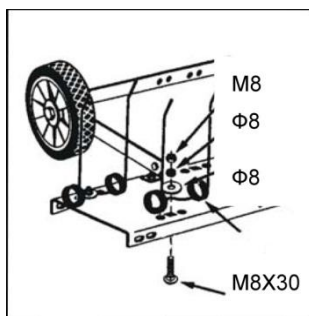

Figure 7
9. Attach the ten tine springs in the square holes in the mounting plate. Use a coach bolt (M8x30) washer ($\varnothing 8$), lock washer ($\varnothing 8$) and nut (M8) for each spring tine (fig. 7). Tighten fully.